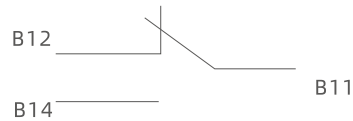

Fig. 6
- See Fig. 6 for circuit breaker in the "OFF" and "ON" position